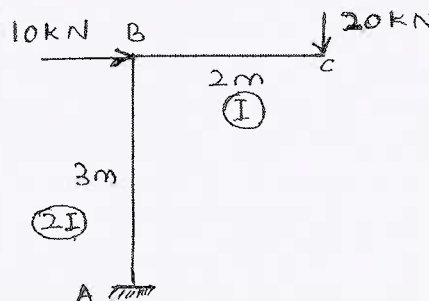

Fig.Q3(b)
- b. Obtain vertical and horizontal deflections at the free end of the cantilever frame shown in Fig.Q3(b), using Castigliano's theorem. (14 Marks)